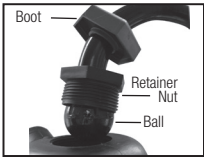

Figure 1
2) Disconnect linkage arm from the top of the pump assembly (see section covering Installing The Pump Handle). (Figure 1).